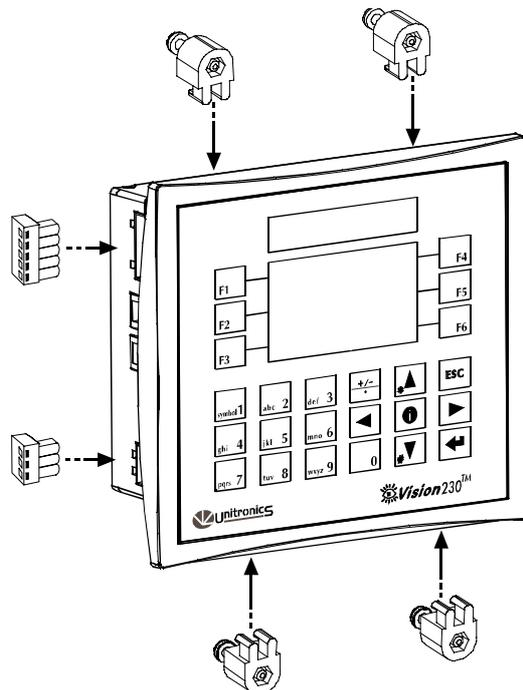

Figure 2. Vision Connectors and Mounting Brackets
Before you begin installation procedures, check the contents of the controller kit. Standard kits contain the controller, a 3-pin power supply connector, a 5-pin CANbus connector, and 4 mounting brackets, each with a screw inserted. These elements are illustrated in Figure 2 below. Other items in the kit include an envelope containing a wire that is ended by a ring cable shoe and other hardware that may be used to earth the controller's power supply. The kit also includes a rubber seal already seated in back of the operating panel, a CANbus network termination resistor; a CD-ROM containing VisiLogic software for programming the controller, a communication cable, this manual, and two sets of keyboard slides which you can use to label the keyboard keys. Note that one set of slides is already installed in the operating panel.
4. Push the 4 mounting brackets into their slots on the sides of the controller as shown in Figure 2, page 9.